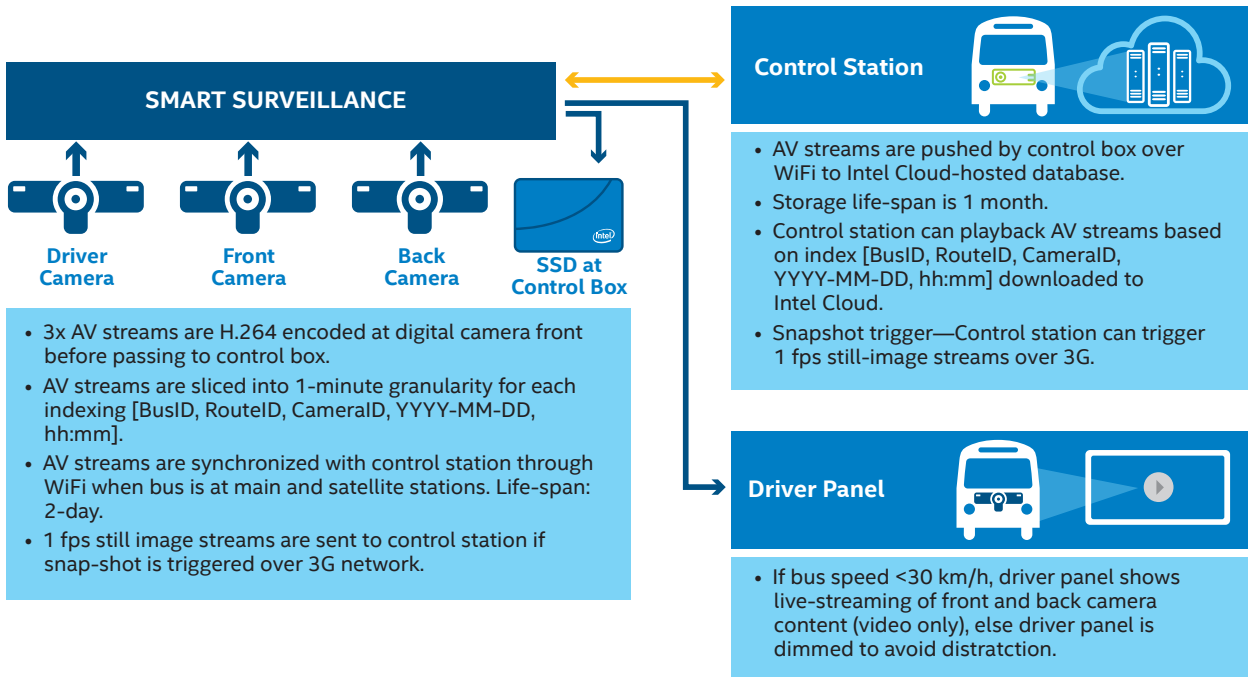

Figure 3. Key Elements for Smart Surveillance.
- Figure 3.** Key Elements for Smart Surveillance5
Drivers can view video streams of passengers inside their vehicle to make sure everyone is safe using a smart surveillance system based on the Intel PoC. The implementation example in Figure 3 shows a driver panel that displays video streams from front and rear cameras when the vehicle is going less than 30 km/h; otherwise, the display is dimmed to avoid distraction. These streams, as well as a third stream from a driver camera, are stored on a Solid-State Drive (SSD) and downloaded to a control station once the vehicle reaches its bay. The video can also be streamed to the control center in real time at one frame-per-second over a 3G network.